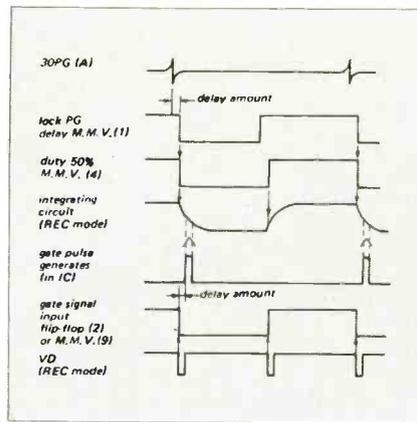

Fig. 15 Timing chart for Servo signals
The two video heads are mounted 180 degrees apart on the periphery of the head disc. Two magnetic pole pieces and PG coils, are also mounted on the disc. The 30 PG (A) signal is used in the drum servo system. While the 30 PG (A and B) signals are used to produce the RF switching pulse. Use the scope to check for these pulses. Refer to servo timing pulse charts in Figures 15 and 16.